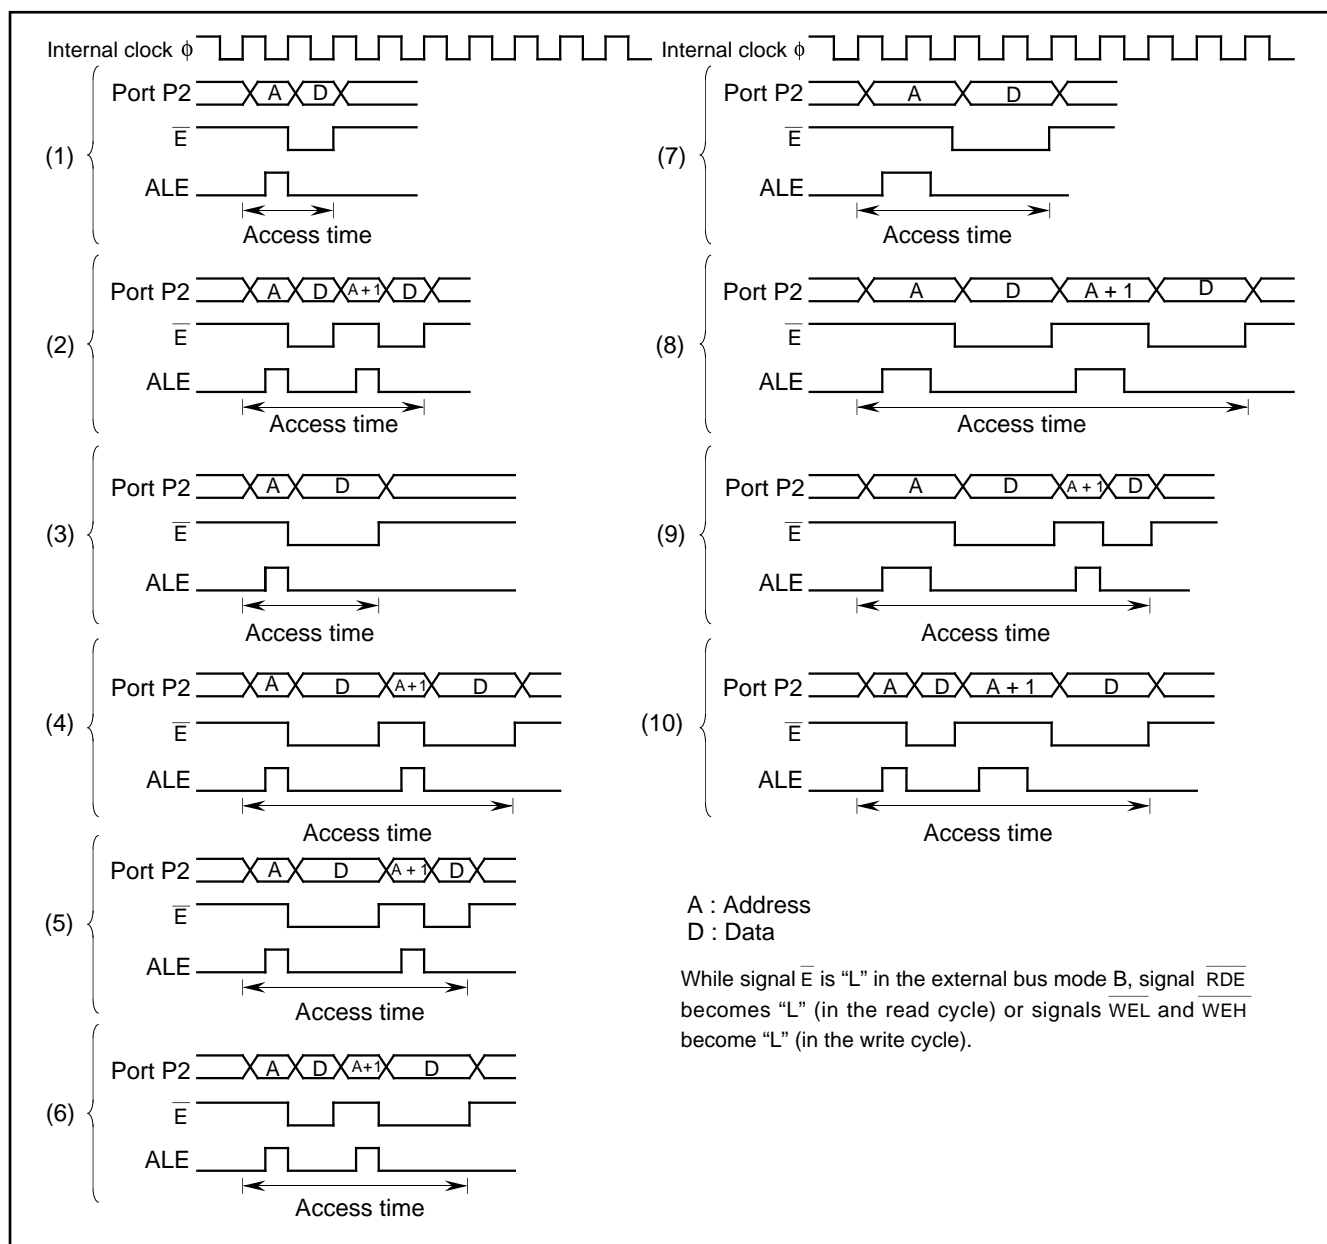

Fig. 5 Bus access timing
The bus interface unit operates using one of the waveforms (1) to (10) shown in Figure 5. The standard waveforms are (1) and (2). The ALE signal is used to latch only the address signal from the multiplexed signal containing data and address.
Waveform (1) in Figure 5 is used to access a single byte or two bytes simultaneously. To read or write two bytes simultaneously, the first address accessed must be even. Furthermore, when accessing an external memory area in the memory expansion mode or the microprocessor mode, set the bus width selection input pin (BYTE) to "L" (external data bus has a width of 16 bits). The data bus in the internal memory area is always treated as the 16-bit bus independent of BYTE.
Therefore, waveform (1), (3) or (7) in Figure 5 is used for instruction code read. Data read and write are described below.
The CPU notifies the bus interface unit when performing data read or write. At this time, the bus interface unit halts the CPU if the bus interface unit is already using the bus or if there is a request with higher priority. When data read or write is enabled, the bus interface unit uses one of the waveforms from (1) to (10) in Figure 5 to perform the operation.